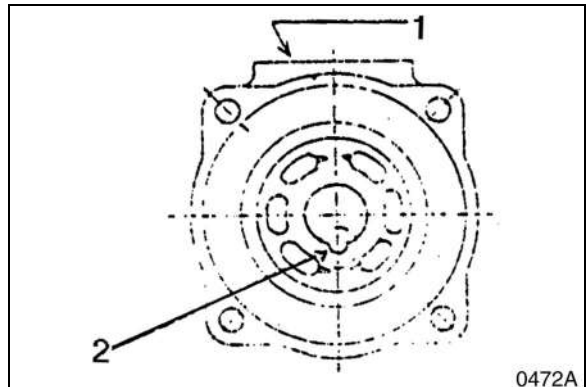

Figure 44
17. Assemble valve plate (131), O-ring and upper valve casing (303). Refer to assembly that shows "R" part (2, Figure 44) of the valve plate turned away from mounting flanges (1) on side of valve plate. Lightly grease O-ring to help keep it in place during assembly.